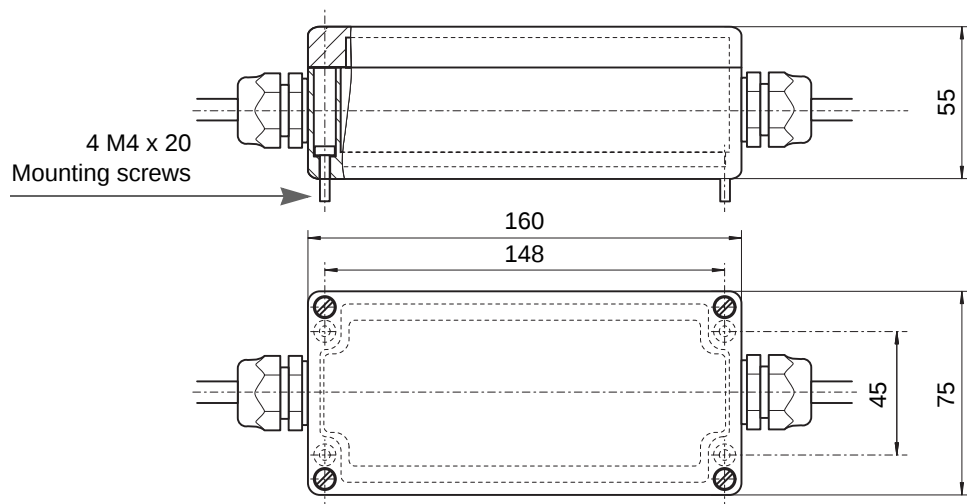

Figure 4-4 : Mounting dimensions for a ABA 160 industrial housing
- 3- Drill and tap the required number of holes, taking into account the necessary spacing between them. See the example in Figure 4-4 for an ABA 160 housing.